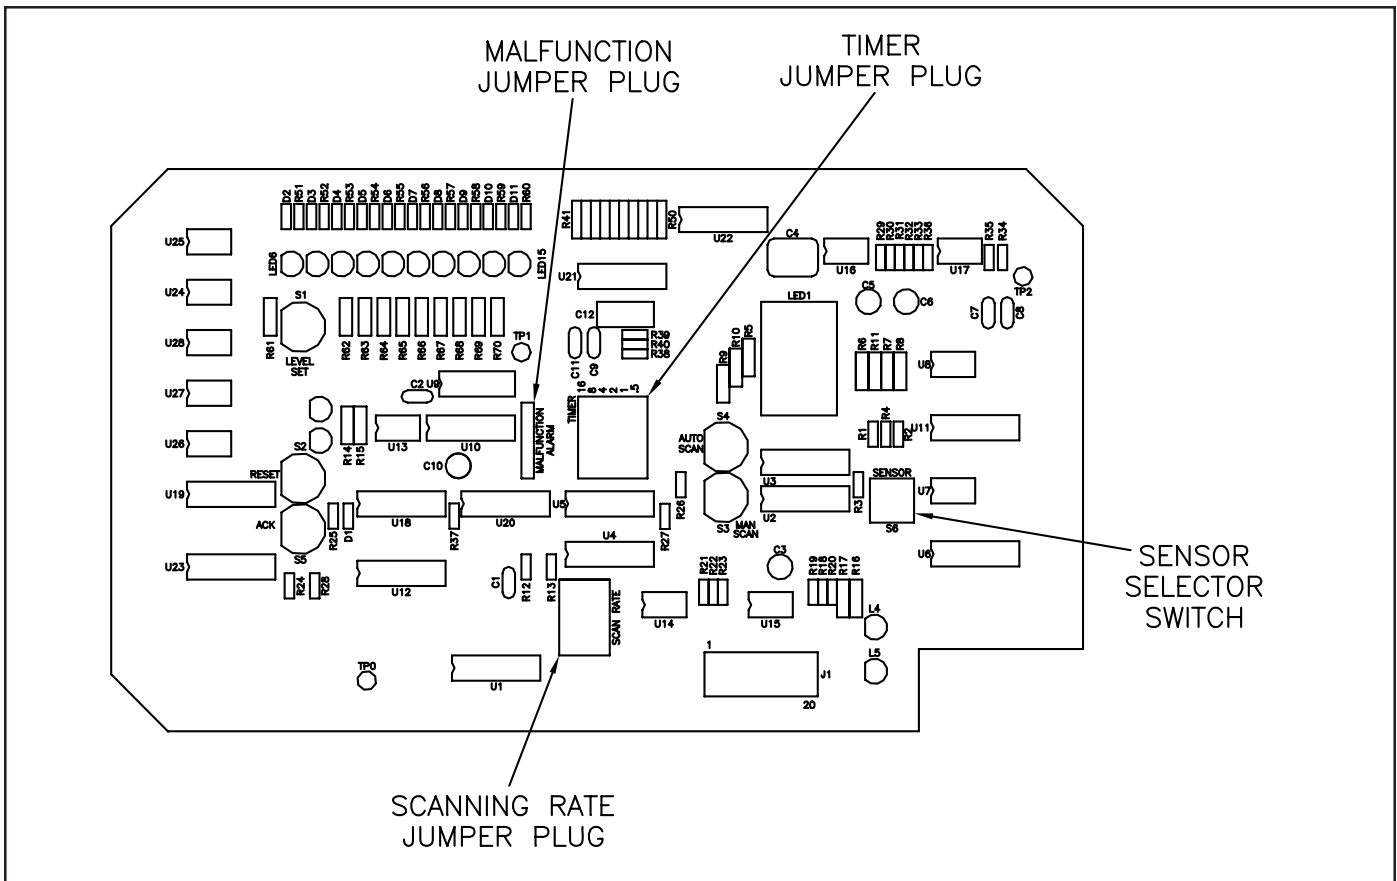

Figure 8 - Model 1620B Front Printed Circuit Board
3. Loosen the sensor cable fitting and feed the cable through the fitting and around the printed circuit board, leaving enough slack to fasten each wire to a terminal. Strip the three (3) wires. For outdoor locations, apply silicone sealant to the cable at the fitting.
8. Replace the sensor module cover and secure with the four (4) screws.
10. When connecting sensors to the Model 1620B, use a small, thin blade screwdriver to set selector switch located on the front printed circuit board and labeled (S6), to correspond to the number of sensors wired. Do not use positions 0 or 9. (See Figure 8)
With the power to the receiver and all associated equipment **TURNED OFF**, disconnect the sensor being removed from the receiver. Then disconnect the sensor located in the last position and reconnect it in the position previously occupied by the removed sensor. Finally, decrease the sensor selector switch (S6) position by one (Refer to Figure 8), and record the removal of one sensor and the new position of the repositioned sensor in the Appendix. Reapply power to the receiver and associated equipment.